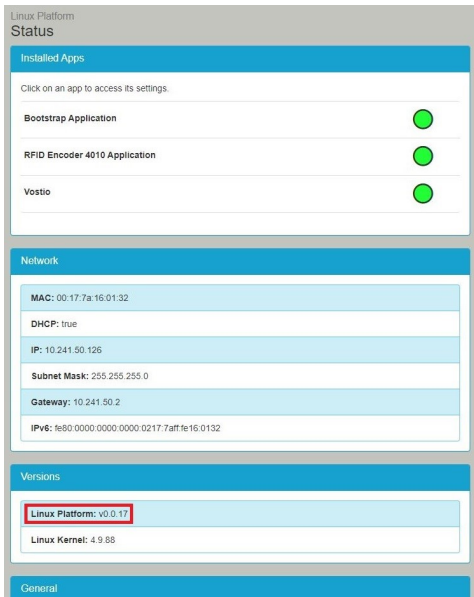

Figure 35
1. The Linux platform version is shown on the Linux platform **Status** page, under **Versions**; see lower part of Figure 35. The **Status** page is shown directly when you log in to the web interface, and can also be reached by clicking **Status** in the menu bar of the web interface.